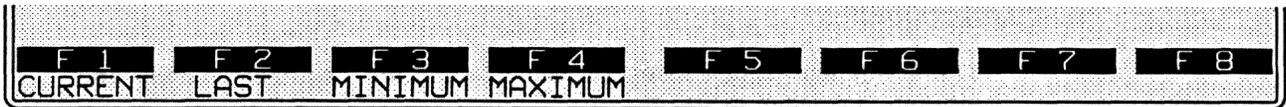

Figure 27-8 Counters and timers are accumulated with respect to one statistical value only.
3. *Counter.* This action accumulates a value for the counter named immediately following the keyword COUNTER. After the counter is named, one value for that counter is selected from the rack of softkeys in Figure 27-8.
4. *Timer.* This action accumulates a value for the timer named immediately following the keyword TIMER. After the timer is named, one value for that timer is selected from the rack of softkeys in Figure 27-8.